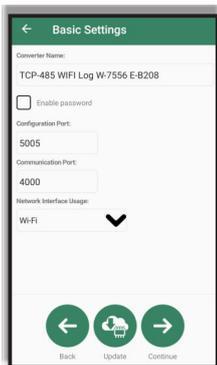

Figure 20
Step 1: On the **Basic Settings** screen (Figure 20), select the **Update** button;